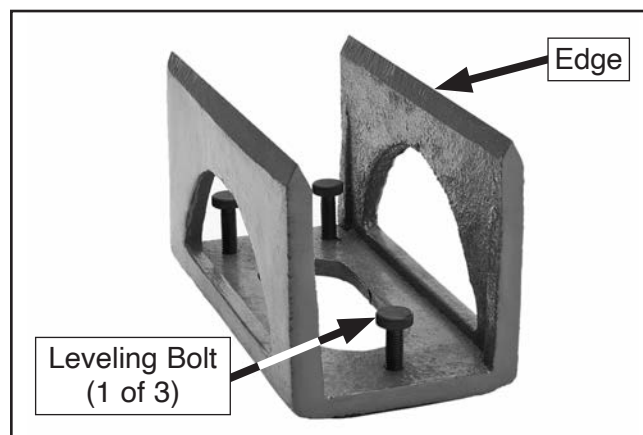

Figure 40. Wheel balancing base.
2. Clean imperfections from edges of wheel balancing base (see **Figure 40**).
3. Using a precision level and leveling bolts (see **Figure 40**), make sure edges of balancing base are level from front to back and side to side.